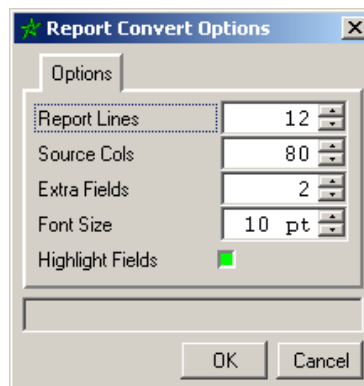

Figure 45. Util | Convert Report Dialog | Options Button | Report Convert Options Dialog
Clicking the **Options** button in the upper left corner of the **Convert Report** dialog displays the **Report Convert Options** dialog shown in Figure 45. These parameters are set by the user to meet his/her viewing preferences. The five (5) available settings on this dialog are discussed next.